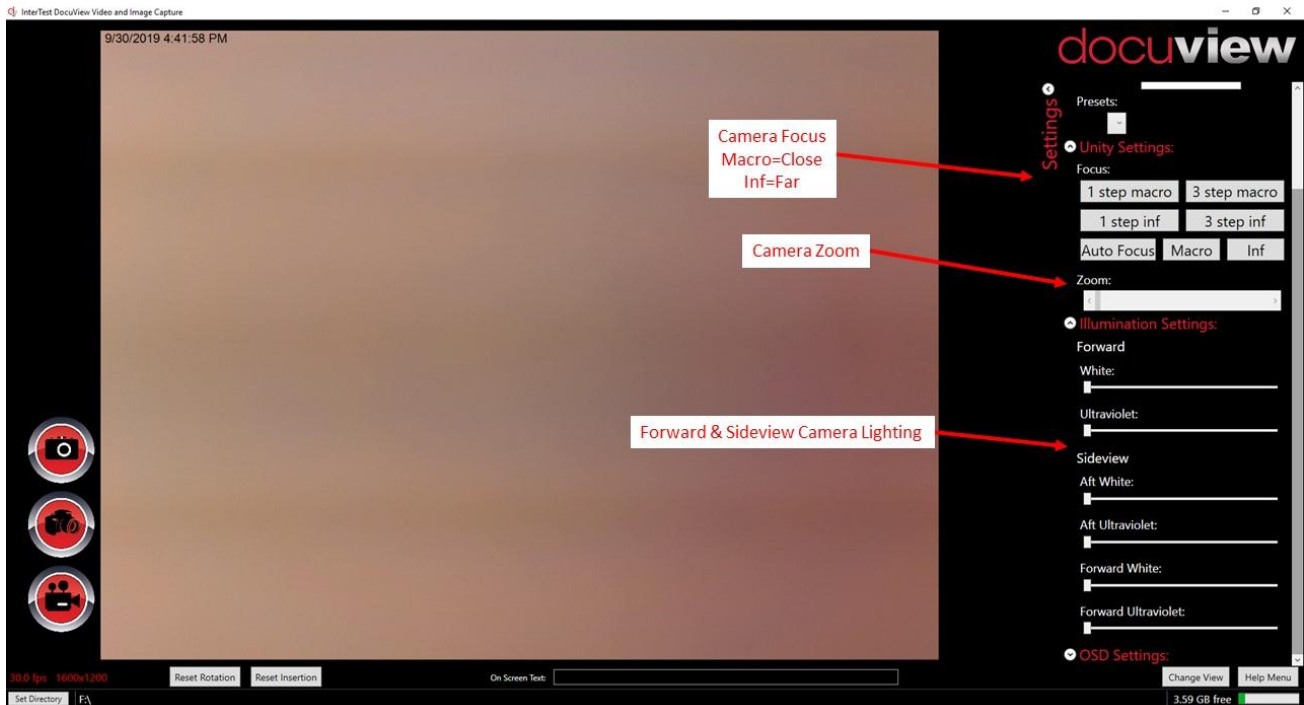

Figure 19 Camera & Lighting Control
- 6) Refer to Figure 19 Camera & Lighting Control